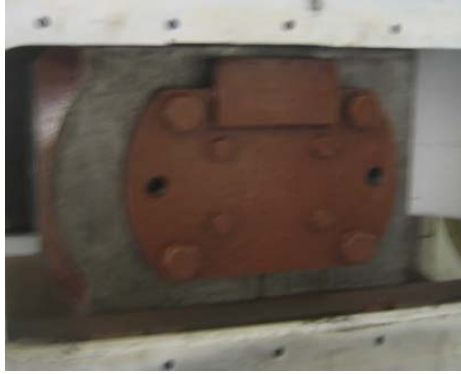

Figure 5-5 Wrist pin retainer plate
7. Remove the cap screws (4 in each retaining plate) that hold the wrist pin retaining plates. (Figure 5-5)
4. Align each crosshead with its connecting rod and install wrist pin retaining plate (with attached wrist pin) (Figure 5-5).